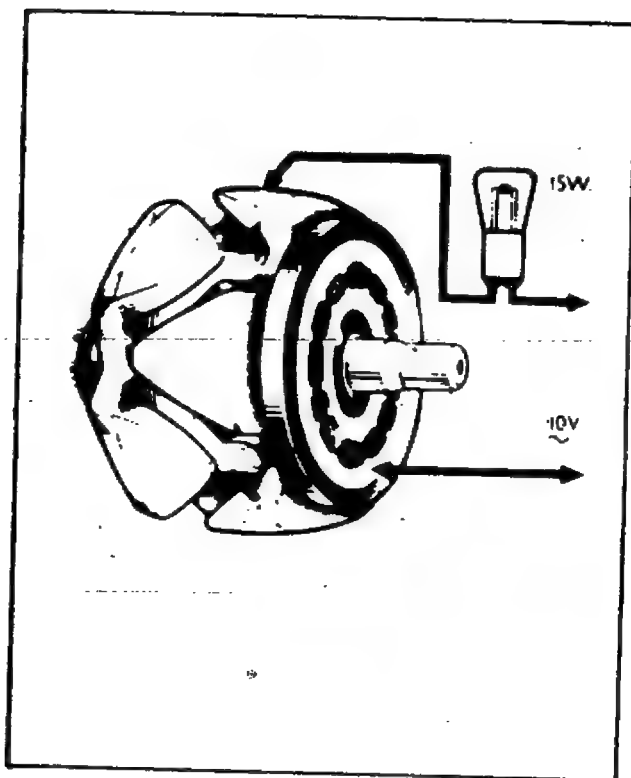

Fig. 25 — Insulation Test
2. Test for defective insulation between one of the slip-rings and one of the rotor poles using a 110-volt A.C. mains supply and 15-watt test lamp (Fig. 25). If the lamp lights the coil is earthing and a replacement rotor/slip-ring assembly must be fitted.